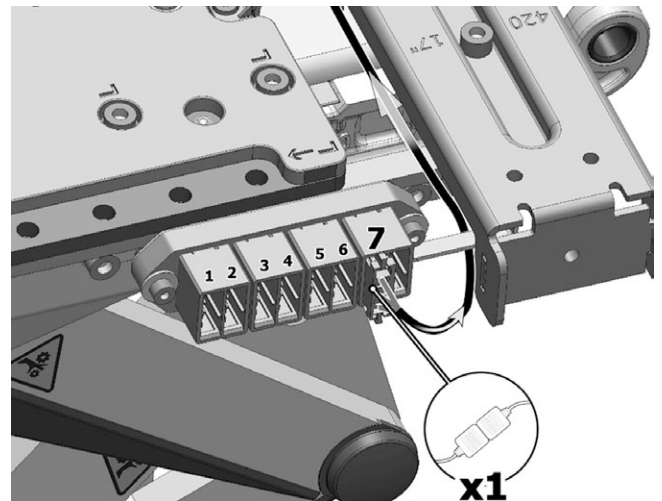

Figure 89. The ICS bus cable is connected to the seventh position of the connector block.
8. Disconnect the cable that connects the ISC Master Module to the contact block at the seat frame. See fig. 89. Release the cable from its cable brackets on the seat frame and AP-Elevator. Make note of how the cables are assembled on the seat frame with consideration to subsequent assembling. See *Rnet and ICS bus cable mounting*, Page 83.